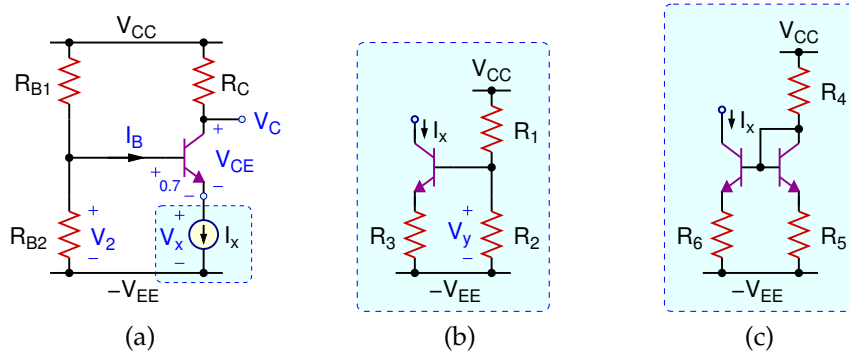
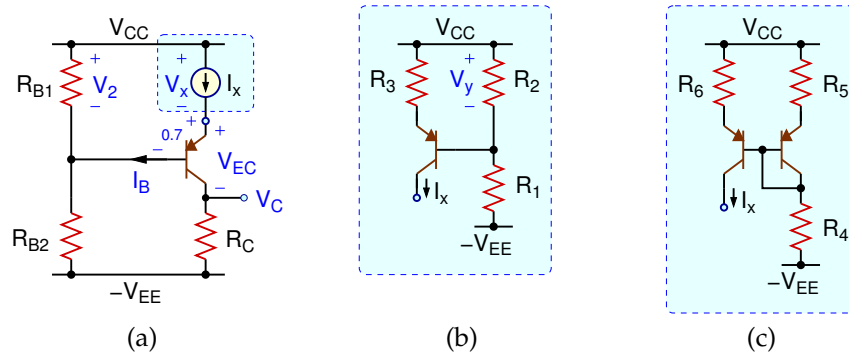

Figure 7: (a) DC biasing circuit for an NPN BJT using a current source (b) Current source (c) Current mirror
Figure 8: (a) DC biasing circuit for a PNP BJT using a current source (b) Current source (c) Current mirror
An alternative method for BJT DC biasing is to use a current source connected to the emitter terminal, which directly sets the I_E current, and hence the I_C current. Figure 7(a) shows the DC biasing of an NPN BJT using a current source, which can be realized using the circuits in Fig. 7(b) or (c). Figure 8 shows the DC biasing circuit of a PNP BJT using a current source, as well as current source and current mirror realizations.
For the current sources in Figs. 7(b) and 8(b), I_x can be calculated as
For the current mirrors in Figs. 7(c) and 8(c), assuming matching transistors and $R_5 = R_6$, I_x can be calculated as
All transistors in Figs. 7 and 8 are assumed to be active, and all I_B currents are assumed to be negligible. These assumptions need to be verified after finding the DC solution.
- Design the circuits in Figs. 7(a) and 8(a) using the current sources in Figs. 7(b) and 8(b), respectively, with the following specifications:
4. Draw the schematics in Figs. 7(a) and 8(a) using the current sources in Figs. 7(b) and 8(b), respectively, with the calculated component values and 2N3904 and 2N3906 transistors. For both circuits, perform **DC operating point** or **interactive simulation** to obtain the **DC solution** for I_C , V_C , V_2 , V_x and V_y .
4. Build the circuits in Figs. 7(a) and 8(a) using the current sources in Figs. 7(b) and 8(b), respectively, with the calculated component values and 2N3904 and 2N3906 transistors. For both circuits, measure the **DC** values for I_C , V_C , V_2 , V_x and V_y using the **voltmeter** or **scope**.
7. For the current-source NPN and PNP biasing circuits in Figs. 7(a)&(b) and 8(a)&(b):